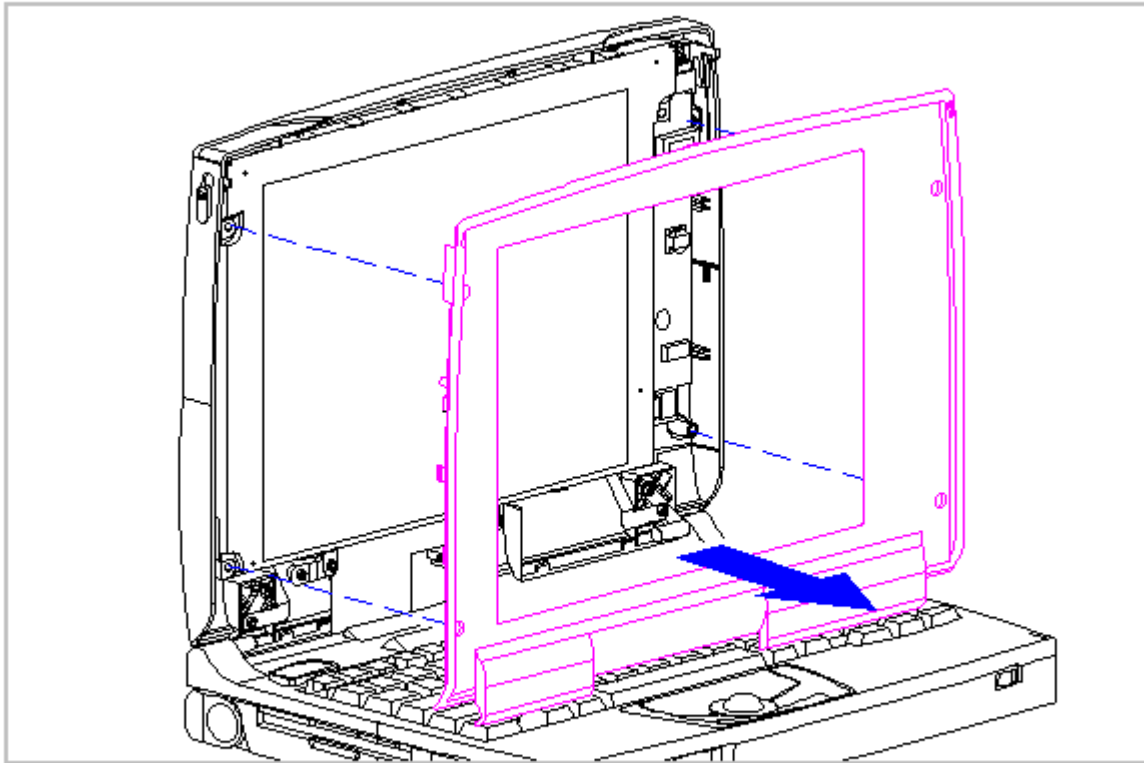

Figure 3-130. Removing the Display Bezel (Models 420 and 430)
4. Separate the display bezel from the display assembly (Figure 3-130).